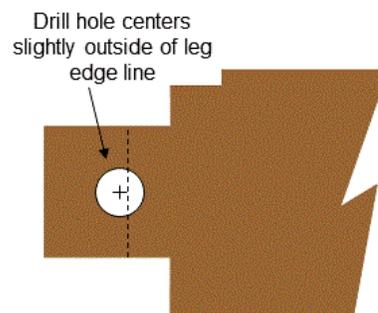

Figure 10
2. Dis-assemble the rack and drill $\frac{1}{2}$ " holes in the center of each tenon, with the hole center just outside the edge line marked on each tenon. See figure 10. Cut the dowel so you have six 4" pieces of dowel for pegs. Sand the side of one end on each peg so the peg is sloped for about $3\text{-}\frac{1}{2}$ " of each peg.